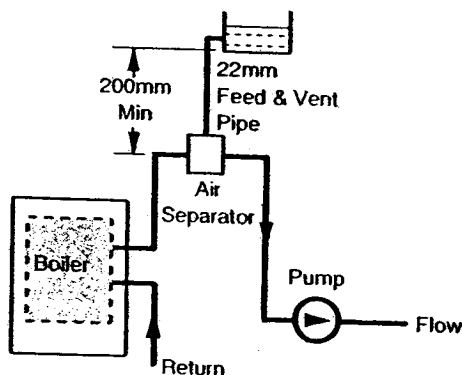

Fig. 7 Alternative Low Head Installation
**Alternative Low Head Installation for all Solo 2 PF (Fig. 7)**